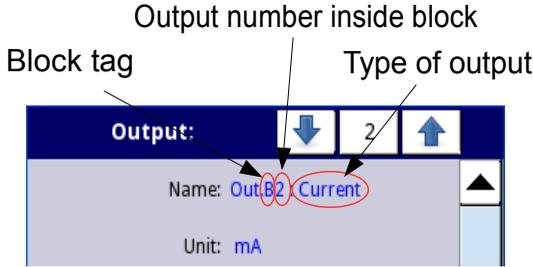

Fig. 7.80. Description of **Name** parameter in **Built-in outputs** menu
- **Name** - each output already has a name given by the device and the user cannot change it, for the description of the **Name** parameter see **Fig. 7.80**,
- **Name** – each output already has a name given by the device and the user cannot change it - see **Fig. 7.80**,